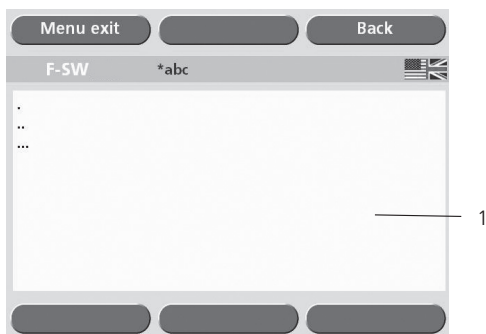

Fig.3-15 Text box for treatment notes
- To add additional information, touch the text box (Fig.3-15/1) to display the on-screen keyboard.